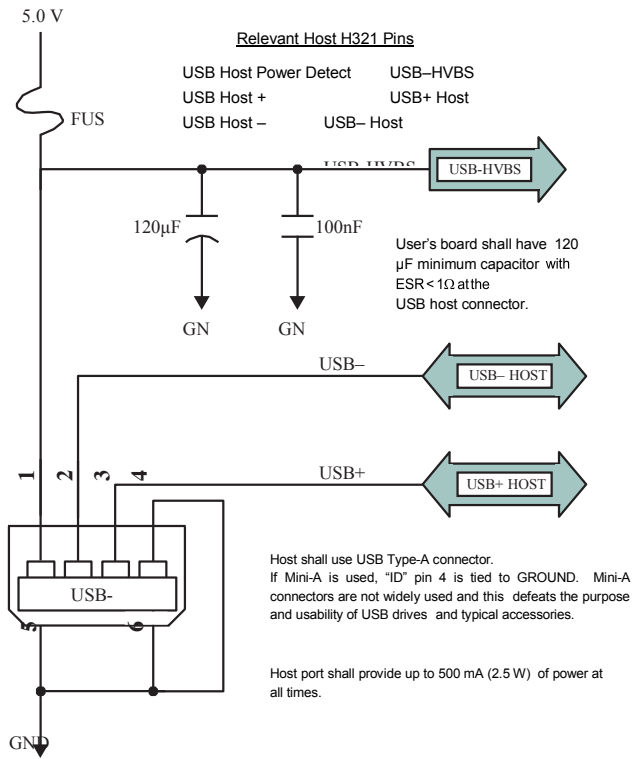

Figure 2-4: H321 USB host design example
- USB Host port (data storage) shown in Figure 2-4 on page 14 serves as a data storage port, such as with a USB flash drive